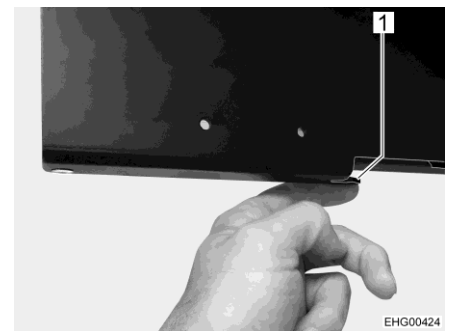

Fig. 85 Unlocking swivel mechanism
- To swivel the flat screen to the desired position: press black lever (Fig. 85,1) at the bottom of the pull-out plate and swivel flat screen.